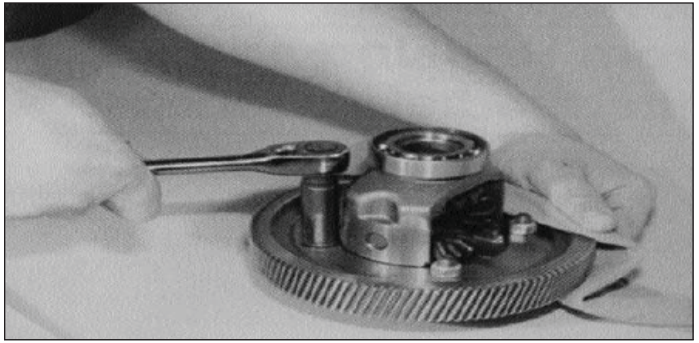

Figure 6-42. Removing Output Gear from Differential
7. Remove output gear from differential (Figure 6-42).